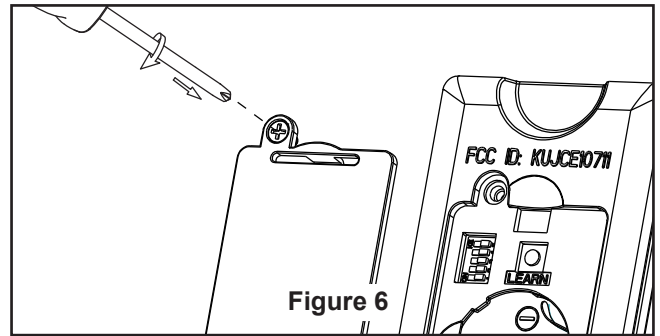

Figure 6
5. The receiver has a wifi antenna that can be used if you experience range issues. (Figure 6)
6. Secure the steel cap to light kit wire cover by twisting in a clockwise direction. Do not over-tighten. (Figure 6)
- 8. Replace battery cover on the remote control and secure with the previously removed screw. (Figure 6)